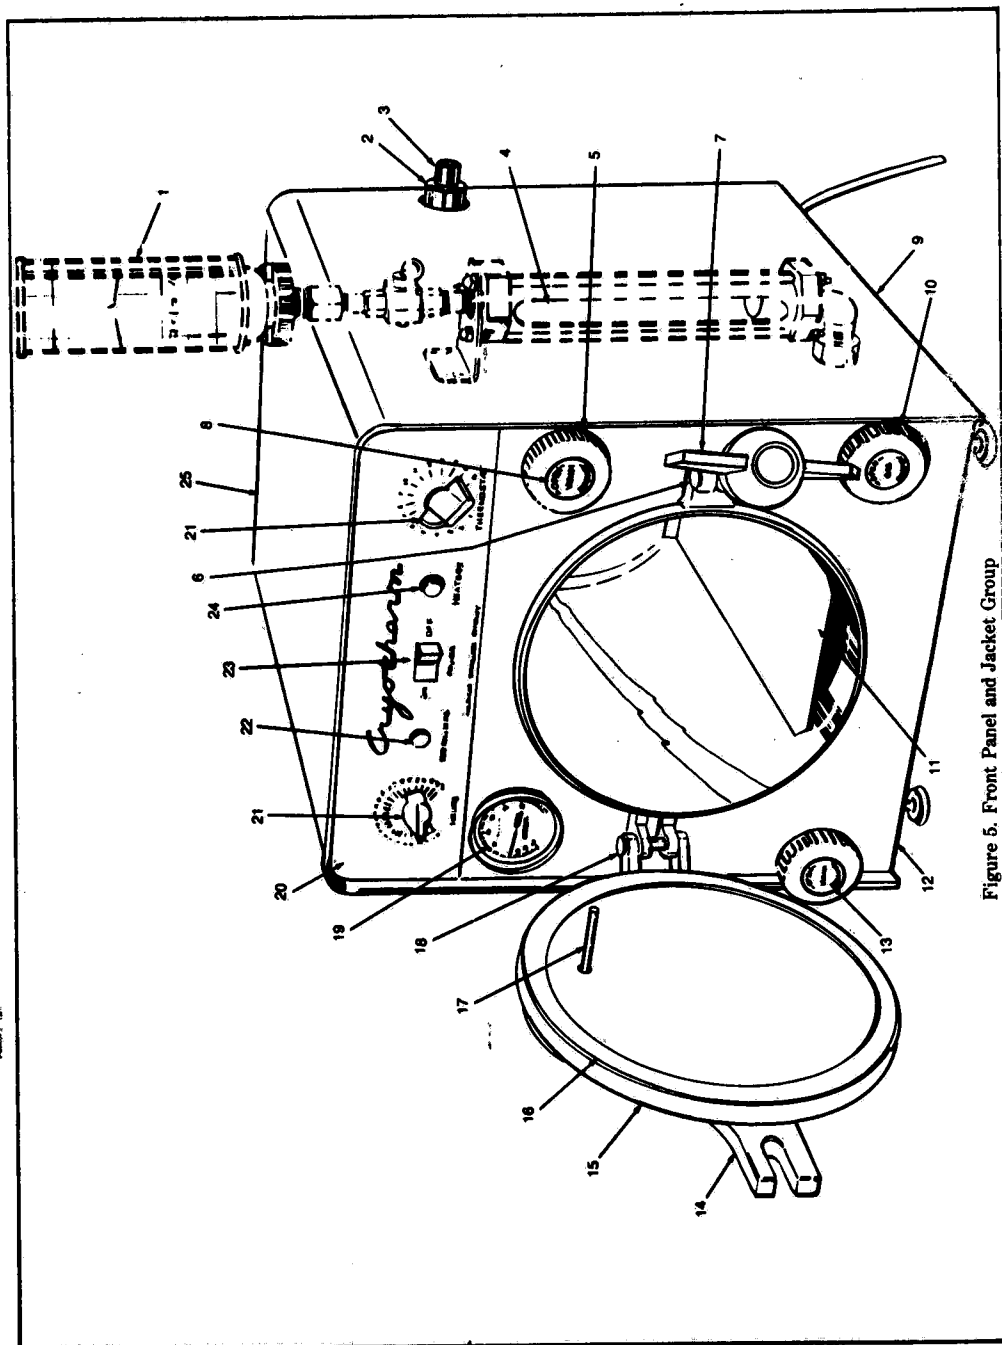

Figure 5. Front Panel and Jacket Group
4. Pilot Light Replacement. Refer to 22 and 24, Fig. 5. With Finishing Jacket removed from base proceed as follows to replace a burned out pilot light: Disconnect line cord plug from outlet socket. Disconnect pilot light leads from terminal connections. Remove speed-nut from lamp body at rear of panel. Remove complete burned out lamp assembly by pulling it through panel from front side. Replace with new pilot light of same color (red lens - Pt. No. 45155 or white lens - Pt. No. 45156). Fasten pilot light to panel with speed-nut. Connect leads to same two terminals to which burned out lamp leads were connected.
7. Door Gasket Replacement. Refer to Parts List, Figure 5. Remove old gasket (16), scrape gasket groove in door (15) clean. Gasket is cut to a tight fit in groove and must be forced in, a short section at a time, without stretching. Should gasket appear to be too long, do not cut it but start over again, compressing short sections as inserted in groove, to take up full length. Coat face of gasket after installation with Amsco Silicone Spray (Pt. No. 40348), to prevent gasket from sticking to shell end ring under heat. Close door tight to seal gasket firmly.
9. Door Replacement. Refer to Parts List Illustration Figure 5. Remove hinge barlock pin (18) from hinge bearing. Remove barlock
(14) with door assembly. Remove thermometer (17) from door (15). Remove "Drive-Lok" pin securing barlock with door post and remove defective door. Install door gasket (16) in replacement door as directed in paragraph 7 this chapter. Reassemble.
12. A new hand wheel assembly has been designed to replace the existing one (7 Fig. 5) and a modification has been made to the existing eyebolt (8 Fig. 5) to accept the new hub assembly. The new design incorporates a fail-safe feature into the hub assembly and extends the normal operating life.
Individual components in these lists are keyed to figures in this manual. Thus 5-1 in the Parts List refers to Item 1 in Figure 5.